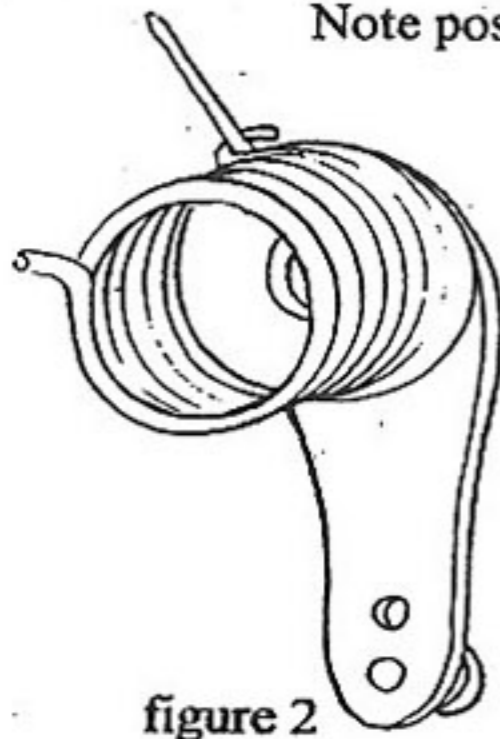

figure 2
- Step 11 Place modified spring onto cruise lever register with tang hooked around dowel pin (Refer to figure 2)